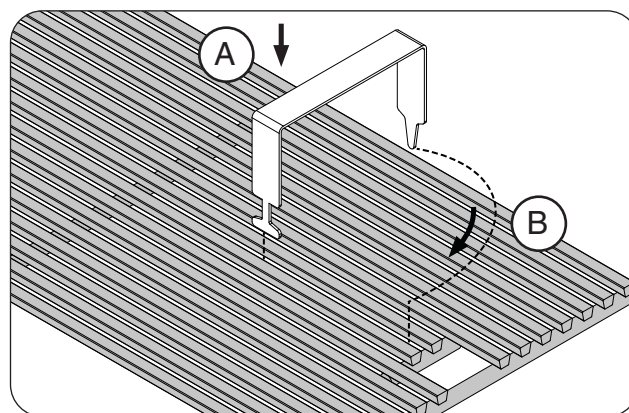
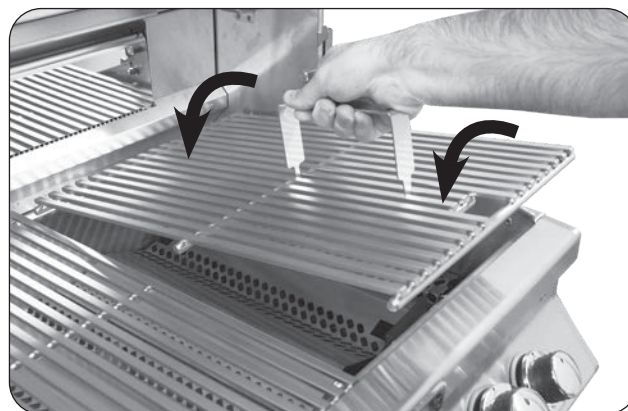

Fig. 24-2 Install cooking grids
Fig. 24-3 Install cooking grids
1. With the prongs facing downward, insert the notched-end of the lifter between two grid rods, then rotate, as shown in Fig. 24-2, A & B.
2. Insert the rear pointed-end of the lifter between the same two rods (see Fig. 24-2, B) and carefully lift the cooking grid and place onto the front and rear grid rests of the grill (see Fig. 24-3). Repeat for all other cooking grids.